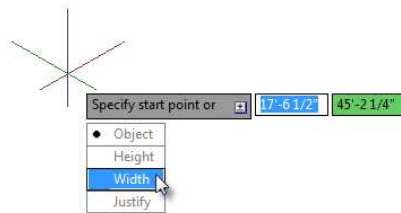

FIGURE 16.11: Choosing the Width option from the context menu
5. Press the down arrow on the keyboard to expose the context menu at the cursor, and then click the Width option, as shown in Figure 16.11.